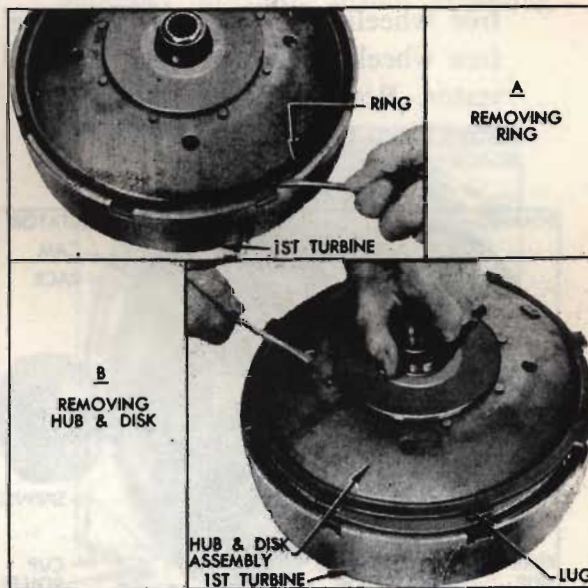

Fig. 27. Removing disc and hub assembly
1. Using a screw driver, pry retaining ring from groove of first turbine. Insert screw driver in hole in disc and raise disc and hub assembly from first turbine (Fig. 27).
9. Install second turbine and carrier assembly into first turbine. Install the first turbine disc and hub assembly over the second turbine (Fig. 27).